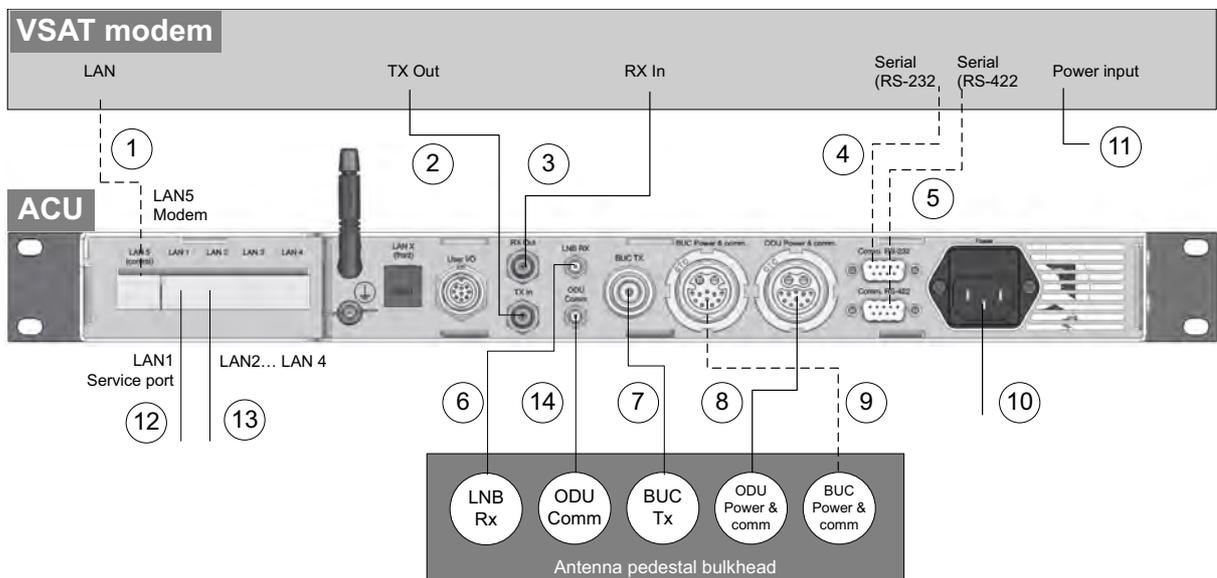

Figure 3-6: Connections between antenna, ACU and VSAT modem
**For Ka/GX antennas** (refer to Figure 3-6 in the previous page):